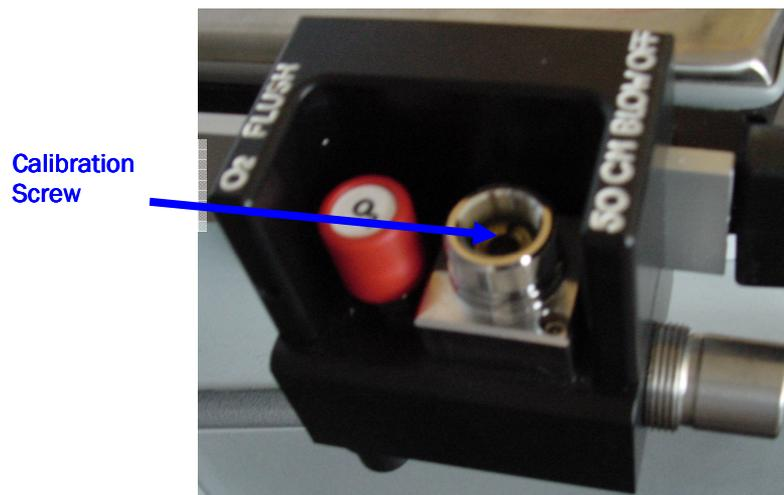

Figure 33: Safety Valve with Defeat Button Housing removed
- Adjust the valve setting with a large flat blade screw driver (see Figure 33)